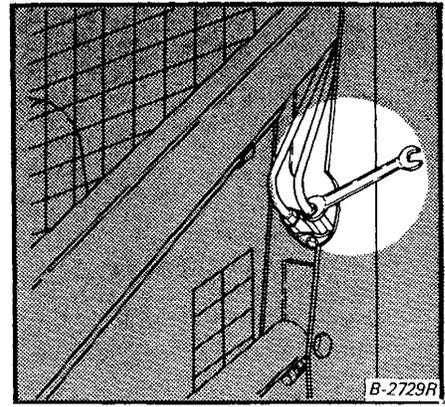

Fig. 1-37 Disconnect Tube From Hoselines
- (1) Fully lower lift arms.
- (2) Disconnect the hydraulic hoses from the base end of the hydraulic cylinder (Fig. 1-37). Put plugs in the hydraulic hose ends.
- (3) Start the engine and run at slow RPM. Push the bottom of the lift pedal. Look for fluid leakage at the open cylinder ports. Move the throttle to fast RPM and check the open cylinder ports for leakage.
- (4) The cylinder piston seals are good if only a small amount of oil come from the open cylinder ports.
- (5) Install the hoses and check rod end of cylinder for leakage past the head seals.